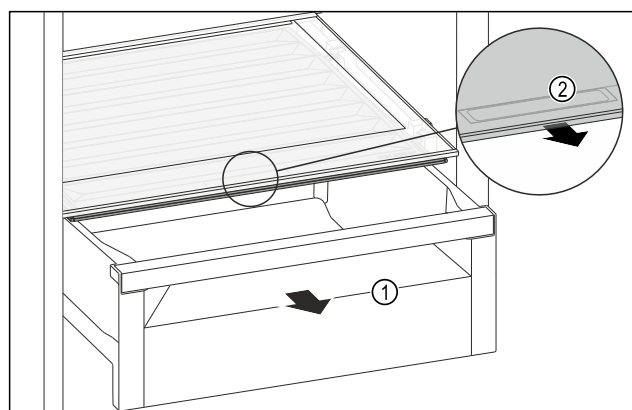

Fig. 131
- Pull out the drawer Fig. 131 (1).
- Grasp the recessed grip Fig. 131 (2) on the compartment lid and pull the compartment lid forwards at the same time.